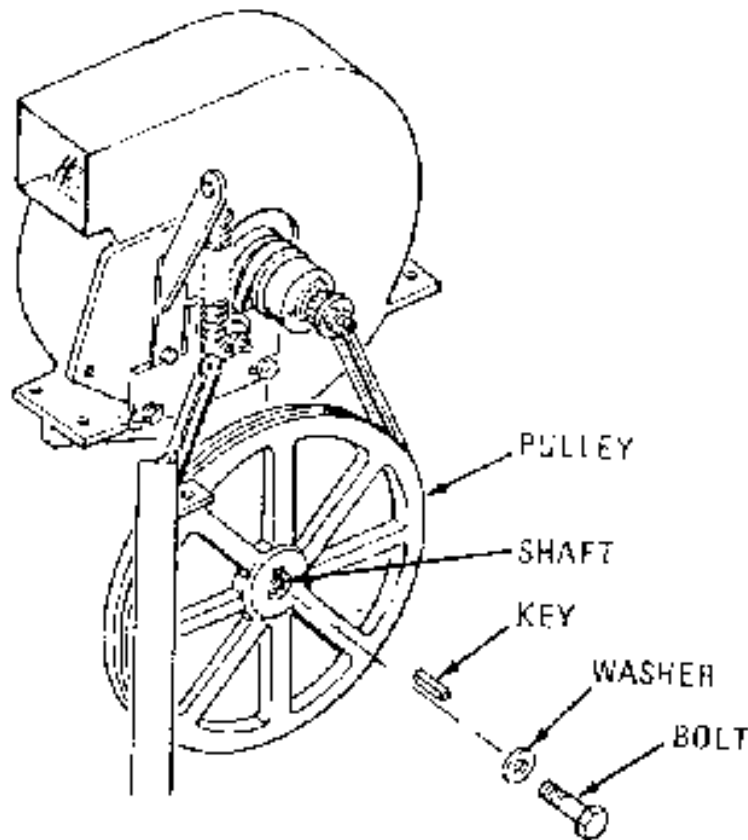

Figure 13, Replacing Damaged Water Pump Pulley Key
- Key is sheared if pulley turns and pump shaft remains stationary. If key is sheared replace as follows: (Figure 13)